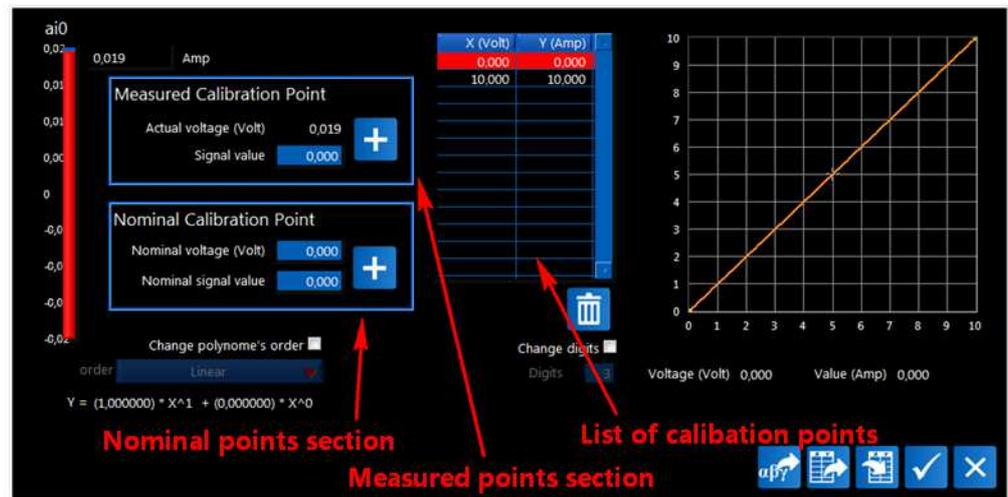

FIGURE 11 POLYNOMIAL SETTINGS DIALOG.
Referring to Figure 11, to add a new nominal point, insert the value of Nominal voltage (Y) and Nominal Signal Value (X) in the Nominal Calibration Point section and press Add button: the nominal point will be added to the list of points. This procedure can be repeated for all the available nominal points.
Referring to Figure 11, to add a new measured point, insert the value of Signal Value (the pressure value) and and press Add button: the measured point will be added to the list of points.